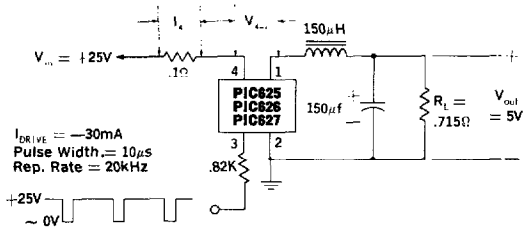

Figure 1. PIC625, 626, 627 Switching Speed Circuit
- The efficiency is a measure of internal power losses and is equal to Output Power divided by Input Power. The switching speed circuit of Figure 1, in which the efficiency is measured, is representative of typical operating conditions for the PIC6UU series switching regulators.